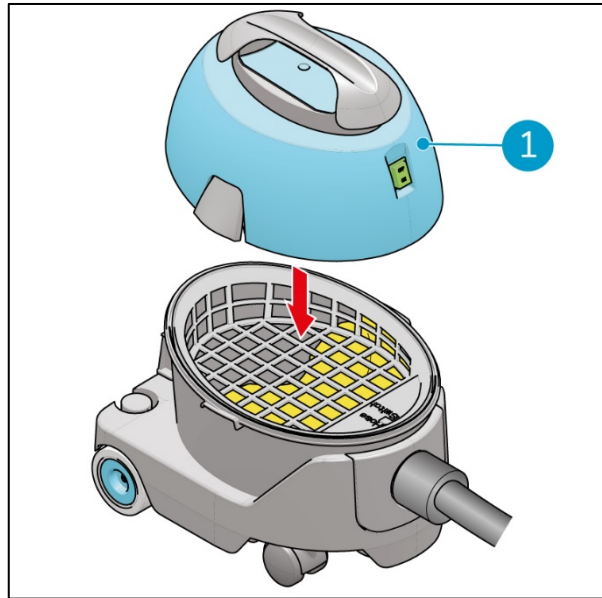

Figure 20
2. Place the head (Figure 20, pos 1) back on the can.